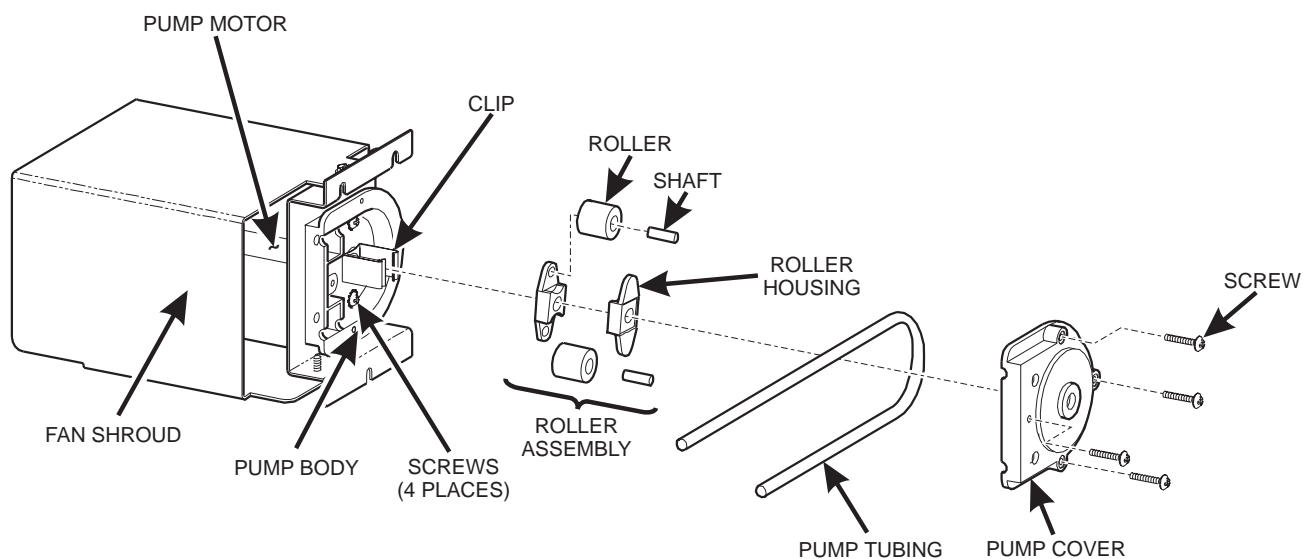

Figure 1
- a. Remove the four screws holding the pump cover to the pump body (see figure 1).